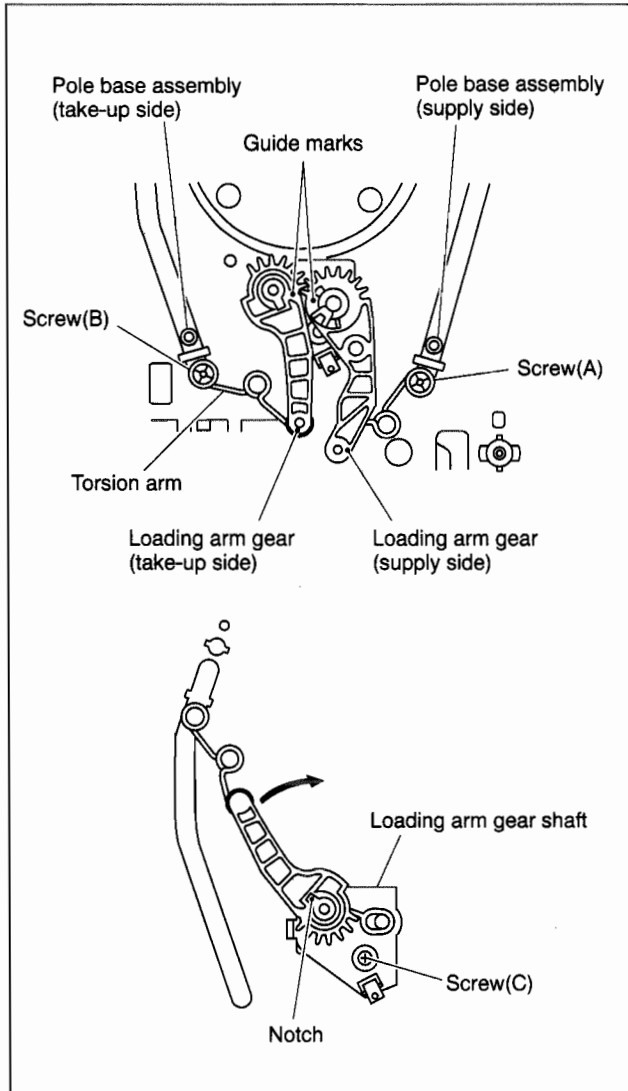
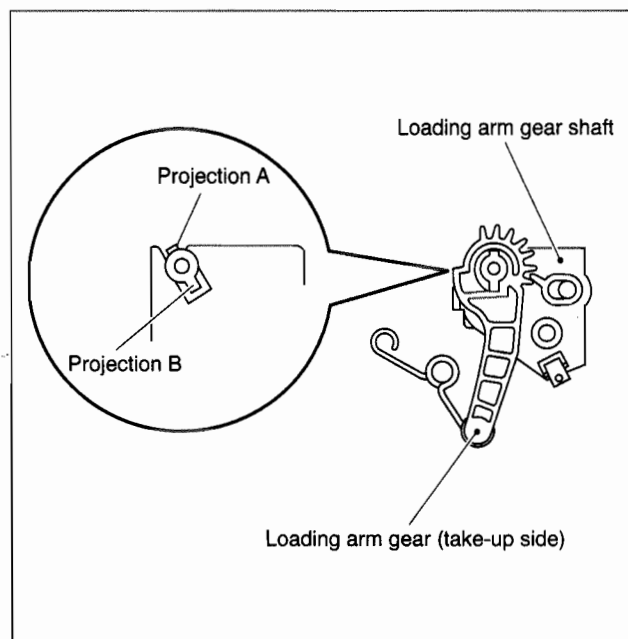

Fig. 2-2-32
Fig. 2-2-33
- (1) Remove the loading arm gear (supply side) by loosening the screw (A). (See Fig. 2-2-32.)
- (2) Remove the screw (B) and remove the torsion arm from the pole base assembly (take-up side). (See Fig.2-2-32.)
- (3) Turn the loading arm gear (take-up side) clockwise so that the notch of the loading arm gear (take-up side) is in alignment with the projection of the loading arm gear shaft and lift it.
Likewise, turn the loading arm counterclockwise so that the notch is in alignment with the projection and remove the loading arm gear (take-up side). (See Fig.2-2-32 and Fig. 2-2-33.)
- (1) Align the notch of the loading arm gear (take-up side) to the projection B of the loading arm gear shaft and slip it over. Then rotate it clockwise for alignment with the projection A and slip it down to the bottom. (See Fig.2-2-33.)
- (2) Then turn the loading arm gear (take-up side) counterclockwise. Hang the torsion arm on the pole base assembly (take-up side) and tighten the screw (B).
- (3) Install the loading arm gear (supply side) so that the guide mark of the loading arm gear (take-up side) is in alignment with the guide mark of the loading arm gear (supply side). Then hang the torsion arm on the pole base assembly (supply side) and tighten the screw (A). (See Fig.2-2-32.)